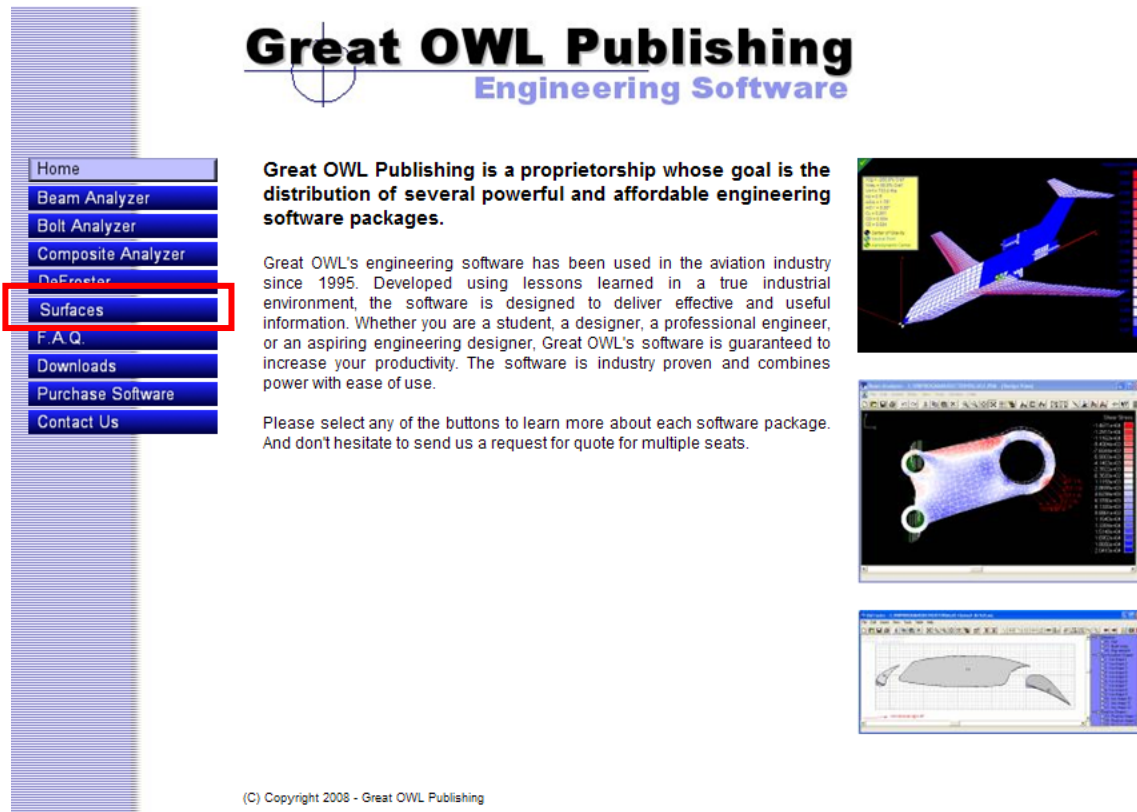

Figure 1-1: The homepage of Great OWL Publishing.
STEP 1.1 Using an internet browser like Windows Internet Explorer, Safari, Chrome, Firefox, etc., go to <http://www.greatowlpublishing.com/>. You should see something resembling Figure 1-1 in your browser.
STEP 1.2 Press the button titled: [Surfaces] (see the red box in Figure 1-1).